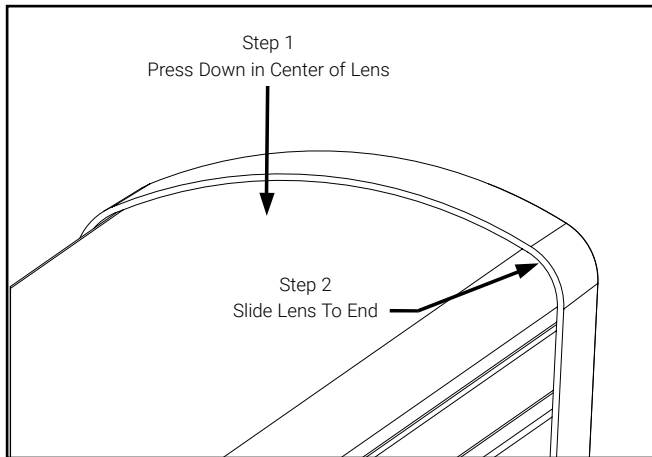
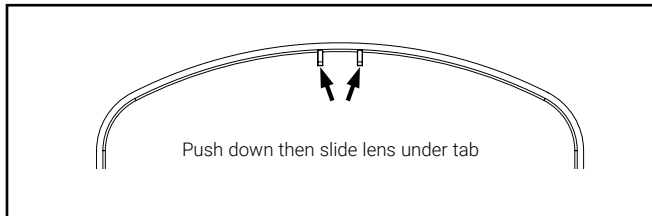
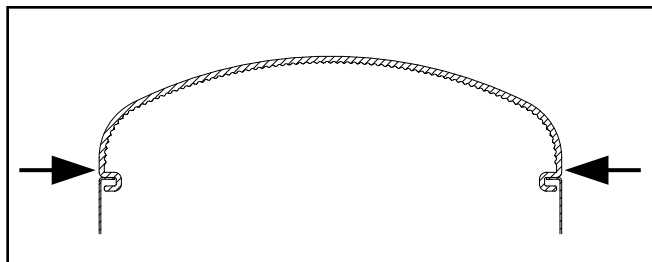

Figure 1.
Figure 2.
Figure 3.
2. Remove lens from luminaire by starting at one end of the fixture and pressing down in the center of the lens. While pressing down on the lens, slide lens to fixture end (Figure 1). There are tabs in the end cap that the lens must slide underneath to allow it to be removed (Figure 2). If the luminaire has a sensor installed, the lens can only slide in the direction away from the end cap with sensor. Squeeze lens side while pulling up to release lens from channel lip (Figure 3).